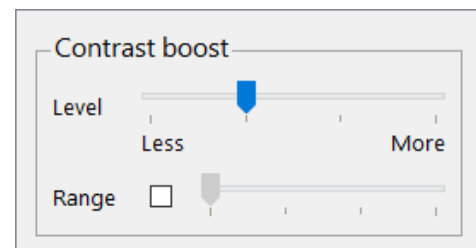

Figure 69. Normalization Options
- **Normalization:** Compensates for backscatter variations due to system beam-pattern irregularities and natural variation of backscatter with angle of incidence. Check the box for Normalization to turn on normalization. Click the triangle button to access the contrast boost setting (Figure 69).